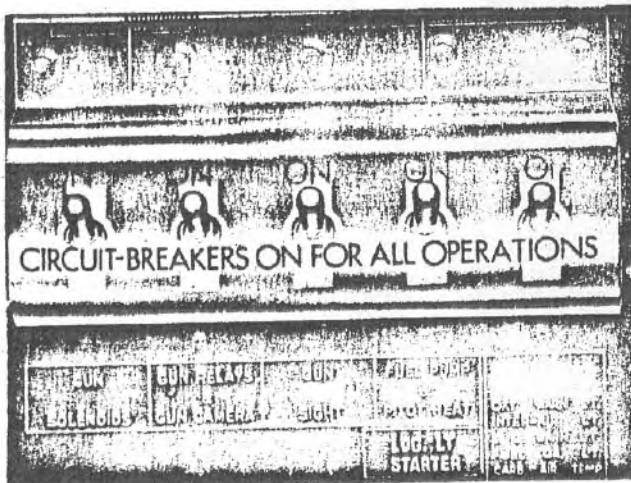
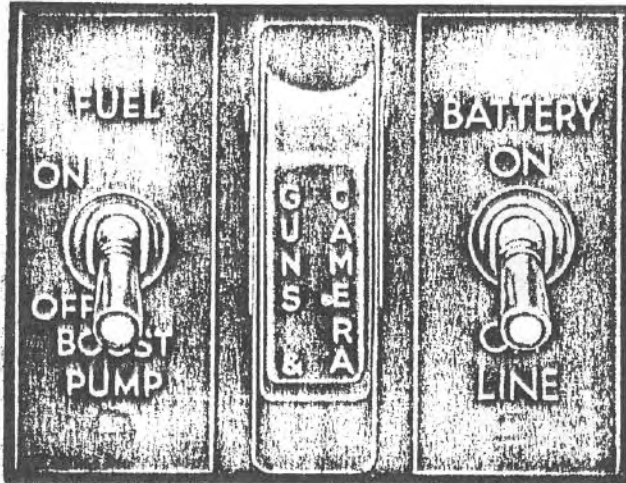

Figure 46—Armament Circuit Breakers
Figure 47—Gun Safety Switch
(4) Guns are fired by throwing the gun safety switch (figure 47) on the main switch panel to "All Guns On", and placing the gun circuit breakers (figure 46) in the "ON" position. Squeeze the trigger switch on the forward side of the control stick hand grip, for the desired burst.
(1) The gun sight is a Type N-3B or N-3C located above the instrument panel, extending aft, on the centerline of the airplane. It is equipped with a sun screen which may be raised or lowered in front of the reflector glass by a lever on the left side of the sight. A crash pad is installed on the gun sight.
(2) To operate the gun sight, place the gun sight rheostat on the main switch panel (figure 14), in the "ON" position [the battery switch (figure 14), must be "ON"], and be sure the gun circuit breakers (figure 46) are "ON". A short circuit in the gun sight electrical system will cause the gun electrical circuit to become inoperative. In this case, turn off the gun sight rheostat (figure 14) and reset the circuit breakers (figure 46).
(3) On airplanes AF43-22752 and subsequent, a type A-1 bomb sight adapter is used with the type N-3B gun sight. It is a modified type of head with an adjustable reflector. A system of adjustable cam stops, which vary the angle of the reflector, makes possible a quick change from bombing to gunnery or vice versa. The first cam stop back of the dial is used to set in a gunnery position and the other ones may be preset for preselected sighting angles to be used in bombing.
A type N-2 or N-6 gun camera is mounted inside the right wing landing gear fairing. It is designed to start taking motion pictures simultaneously with the firing of the guns and will stop when firing ceases. The camera may not be used without placing the "GUN SAFETY SWITCH", (figure 47) in the "ON" position. To operate, throw on the "GUN SAFETY SWITCH", then squeeze the trigger switch on the flight control stick.